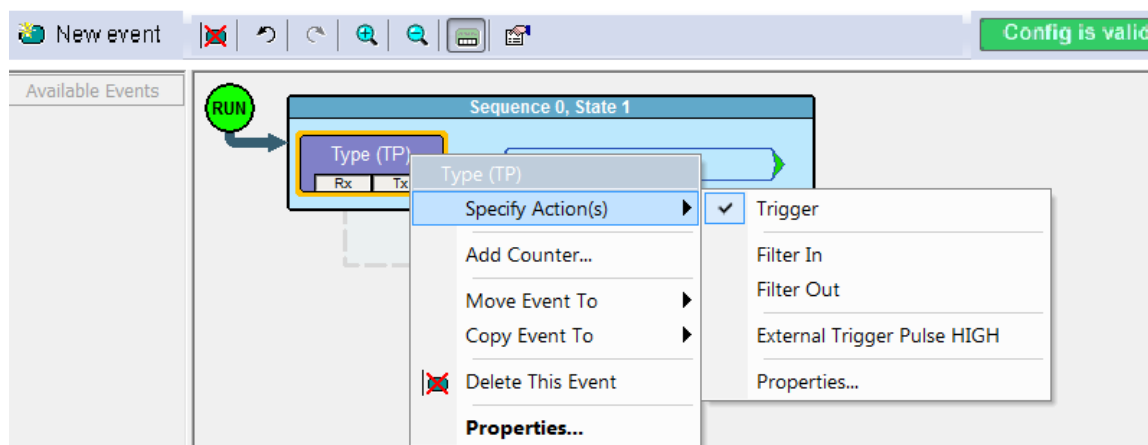

Figure 10.21: Assigning Action to Event Button
1. Right-click the **Event** button to display a pop-up menu (see Figure 10.21 on page 289.)